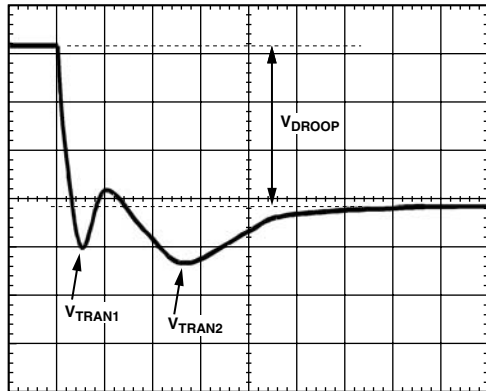
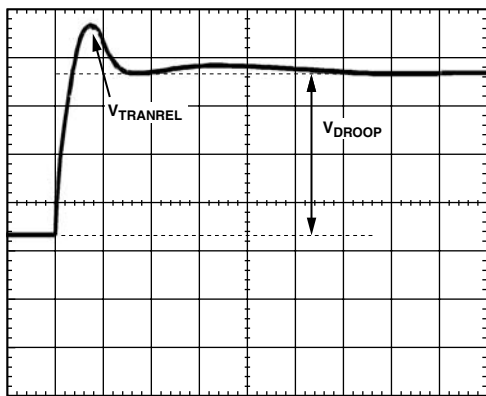

Figure 4. Transient Setting Waveform
Figure 5. Transient Setting Waveform
19. With dynamic load still set at maximum step size, expand scope time scale to see  $2\ \mu\text{s}/\text{div}$  to  $5\ \mu\text{s}/\text{div}$ . The waveform may have two overshoots and one minor undershoot (see Figure 5). Here,  $V_{\text{DROOP}}$  is the final desired static value.
21. For load release (see Figure 5), if  $V_{\text{TRANREL}}$  is larger than  $V_{\text{TRAN1}}$  (refer to Figure 4), there is not enough output capacitance. Either more capacitance is needed or it is necessary to make the inductor values smaller (if inductors are changed, it is necessary to start design over using the spreadsheet and this tuning guide).